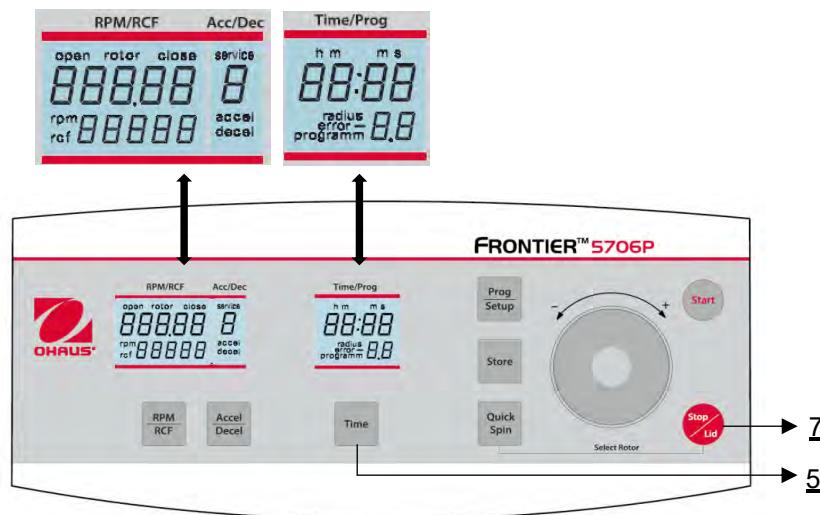

Figure 28
Open the centrifuge lid and shut off the main switch. Now switch on again the main switch. For approximately 3 seconds "5706P" will be shown in the display as well as the current software version. Press during this time the keys **"Time"** (5) and **"Stop/Lid"** (7) simultaneously. As a result, a display test is executed for approx. 3 seconds. All indicators will appear at the same time (see **Figure 28**).